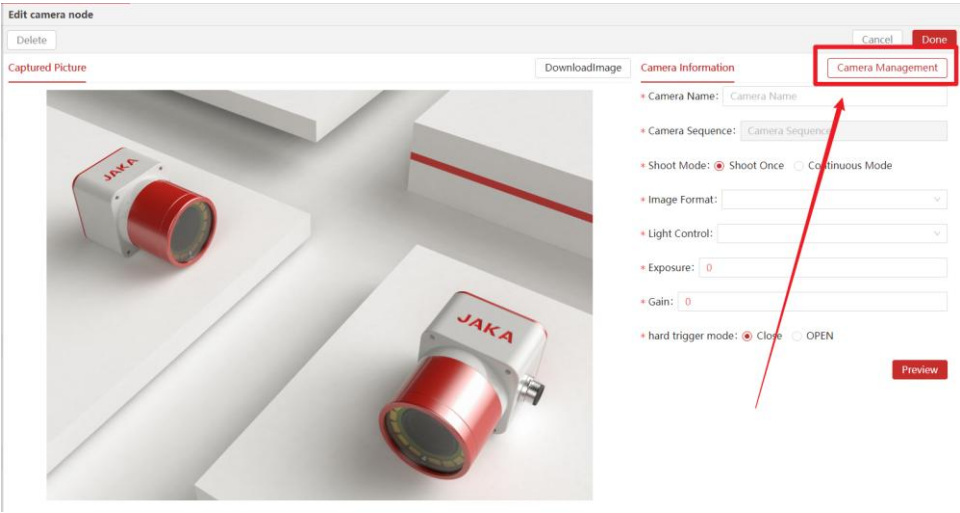

Figure 3.1-2
2) Double-click to enter the camera management node, and click camera management, as shown in Figure 3.1-2.